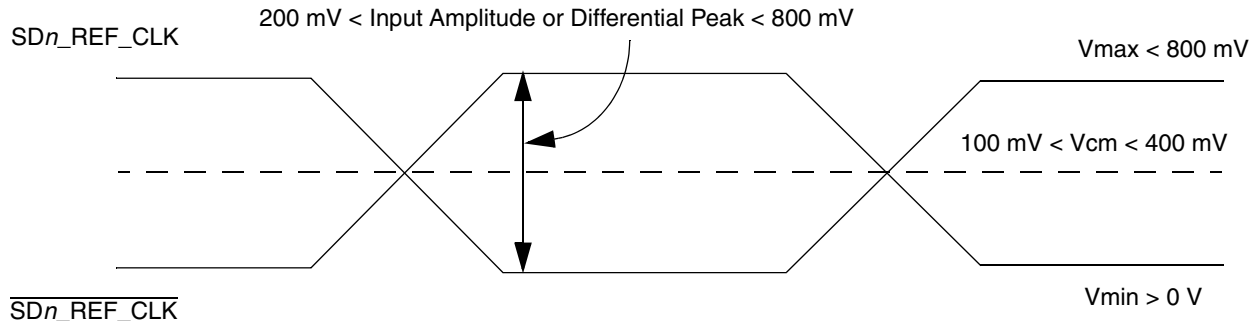

Figure 42. Differential Reference Clock Input DC Requirements (External DC-Coupled)
- For **external DC-coupled** connection, as described in Section 16.2.1, “SerDes Reference Clock Receiver Characteristics,” the maximum average current requirements sets the requirement for average voltage (common mode voltage) to be between 100 and 400 mV. Figure 42 shows the SerDes reference clock input requirement for DC-coupled connection scheme.